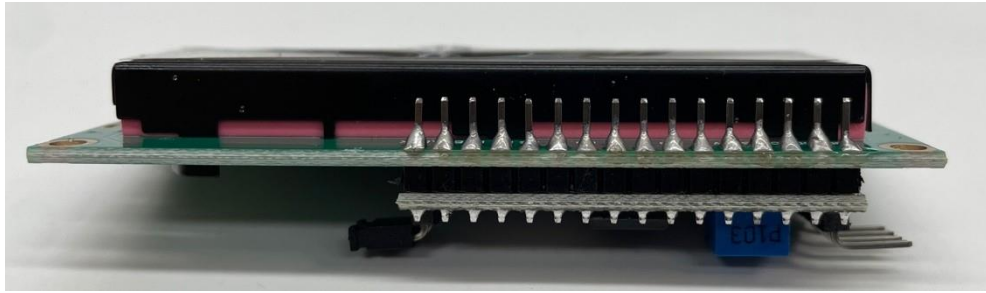
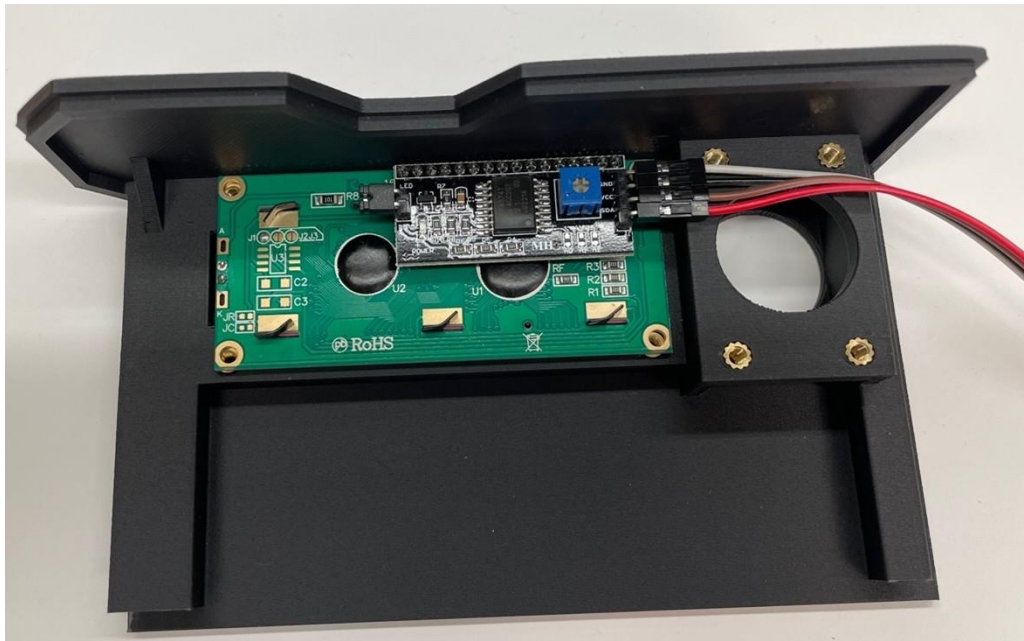

Figure 2.3- I2C Adapter to LCD screen pin connect
Figure 2.4- Screen in place with wires.
2. Solder the LCD screen too I2C Adapter as shown and secure to the case with M3 screws as shown in Figure 2.3. The screen in place should look like Figure 2.4.